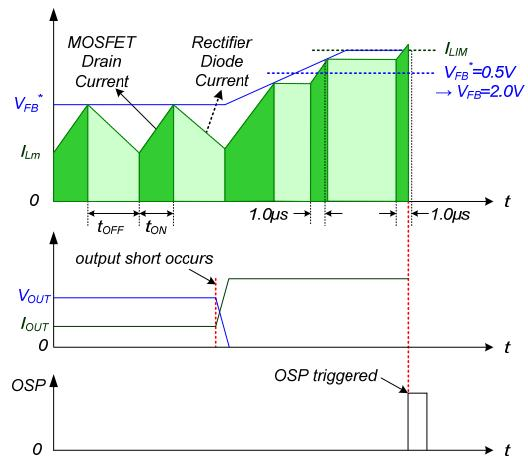

Figure 22. Output-Short Protection
4.3. Output-Short Protection (OSP): If the output is shorted, steep current with extremely high di/dt can flow through the SenseFET during the minimum turn-on time. Such a steep current brings high-voltage stress on the drain of the SenseFET when turned off. To protect the device from this abnormal condition, OSP is included. It is comprised of detecting V_{FB} and SenseFET turn-on time. When the V_{FB} is higher than 2.0 V and the SenseFET turn-on time is lower than 1.0 μs , the FSD176MRT recognizes this condition as an abnormal error and shuts down PWM switching until V_{CC} reaches V_{START} again. An abnormal condition output short is shown in Figure 22.